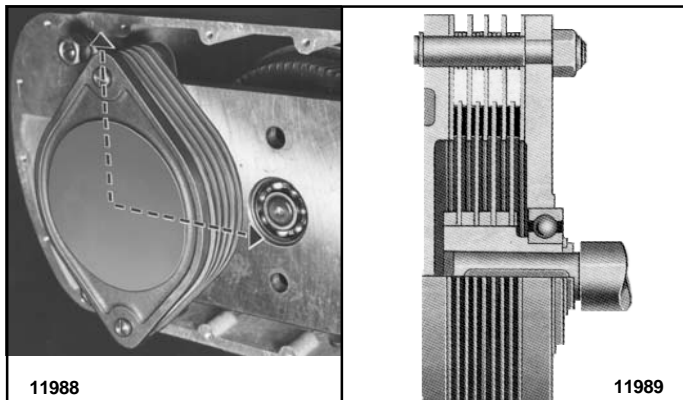
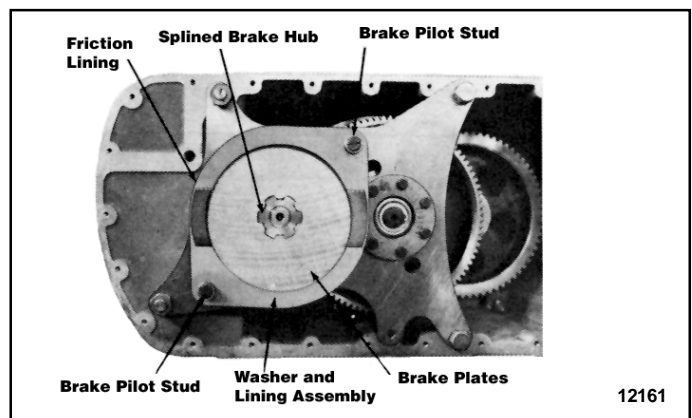

Figure 8-4. Motor brake friction plates
Figure 8-5. View Showing Friction Discs
(1) Check to insure that the rope clamps are in correct position and tightly clamped.
(2) Check that the inactive rope on the drum has been properly lubricated.
(3) Check the wear of the grooves in the drum and general condition of the drum grooves and land between grooves. (It is recommended that the bottom diameter of the drum groove is measured and recorded at the time crane is received and subsequently measured at inspection intervals. With this data, scheduled drum replacement can be determined.)
(4) The drum bearing supporting the drum end away from the speed reducer should be checked for adequacy of lubrication and general condition.
**b. Construction.** The internal disc brake is a spring set, solenoid released electric brake which operates in the gear case lubricant. The brake consists of four brake discs which are fastened to the motor pinion shaft by means of a spline, and which revolve with the motor shaft. These discs are separated by stationary plates to which friction lining is bonded. The stationary plates slide over pilot studs fastened to the spider and which prevents the discs from rotating. Each stationary plate is separated by small springs mounted on the pilot studs. These springs act to separate each disc when the brake is released. The final stationary plate is solid (referred to as the compression plate), and post mounted. Retaining rings on the pilot stud holds the assembly together. See Figure 8-4 below.
- (1) Remove one hex socket button head cap screw from brake cover and lift brake cover off.
- (2) Unplug electrical leads and loosen set screw in gear case cover. Turn actuating mechanism counterclockwise, by hand or with a plumber's strap, and remove from gear case cover.
- (3) Check to see that brake plunger moves freely. Inspect for evidence of overheating or other damage.
- (4) Replace all worn or damaged parts. Operating spring on actuating mechanism is color coded for brake torque; when replacing spring use spring having same color code. When replacing body assembly, also replace brake operating spring.
- (5) If conditions warrant that inspection of the brake discs is required (Figure 8-5 below), drain oil from gear case. Remove brake actuating mechanism per Paragraphs 8-5.d.(1) and 8-5.d.(2) above. Remove hex head cap screws which secure gear case cover to the gear case. Remove gear case cover from gear case.
(6) Remove retaining rings from the brake pilot studs and lift off the compression plate. Lift off washer and lining assemblies, release springs, and motor brake plates. (Note for reassembly, that two of the washer and lining assemblies have friction surfaces on one side only and must be replaced at each end. Three washer and lining assemblies, with friction surfaces on both sides and release springs; are replaced between the motor brake plates; see Figure 8-4.) Check motor brake plates for warping, scoring or other signs of deterioration. Also check spline fit of motor brake plates to the brake hub for gouging, mushrooming of the plates or other signs of distress or wear. Replace plates if these conditions are found. Brake plates which are replaced because of spline wear should also receive a replacement brake hub. Check condition of friction material on the washer and lining assemblies, and replace assemblies if required. Reinstall brake plates, release springs, and friction washers in sequence as shown in Figure 8-4 and replace retaining rings. On most hoists (DMR-2 through DMR-5) it is possible to get the lining assemblies misoriented. When installed properly the friction linings will be on a horizontal line (not vertical). See Figure 8-5. Clean and flush gear case and replace gear case cover using a new gasket. Refill with new lubricant.